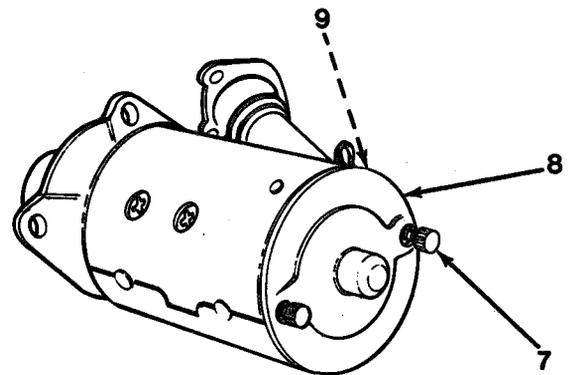

Figure 10-3
10. Install washer (9), commutator end frame (8) and two thru bolts (7, Figure 10-3).